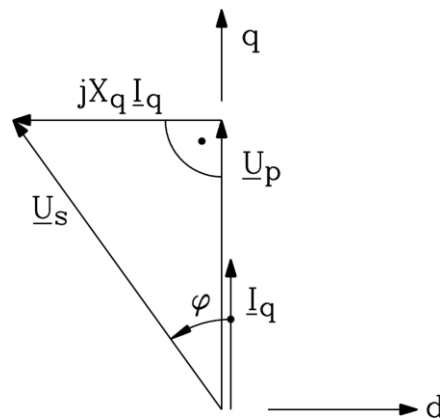
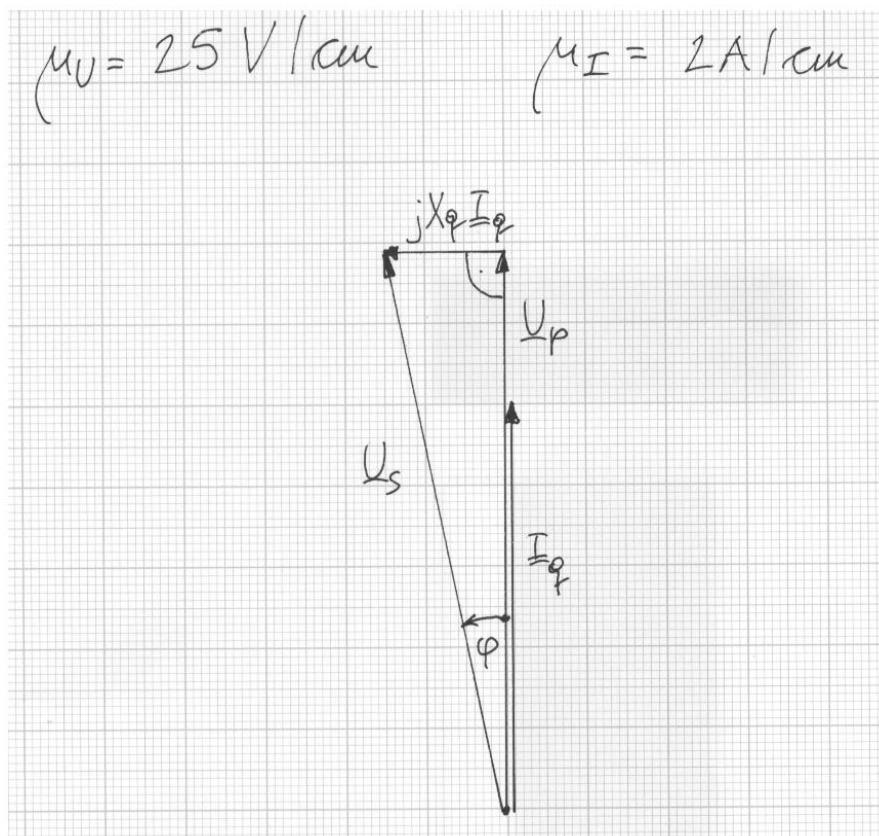

Fig. 26-3: Voltage diagram for q-current, motor operation, R_s neglected
Fig. 26-4: Voltage diagram for q-current, motor operation, R_s neglected
With $X_{s\sigma} = 1.4 \Omega$, $R_s \cong 0$, we get acc. to Fig. 26-3:
7) Voltage phasor diagram acc. to Fig. 26-3 is given in Fig. 26-4.